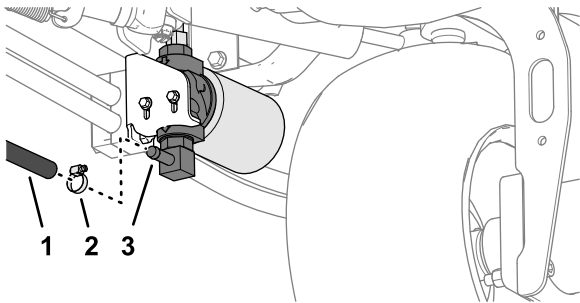

Figure 10
1. Remove the hose clamp that secures the tank-return hose to the barbed fitting of the hydraulic filter head (Figure 10).
2. Remove the tank-return hose and allow the hydraulic fluid to fully drain from the filter head and hose (Figure 10).
3. Assemble the tank-return hose and hose clamp to the barbed fitting and tighten the clamp (Figure 10).